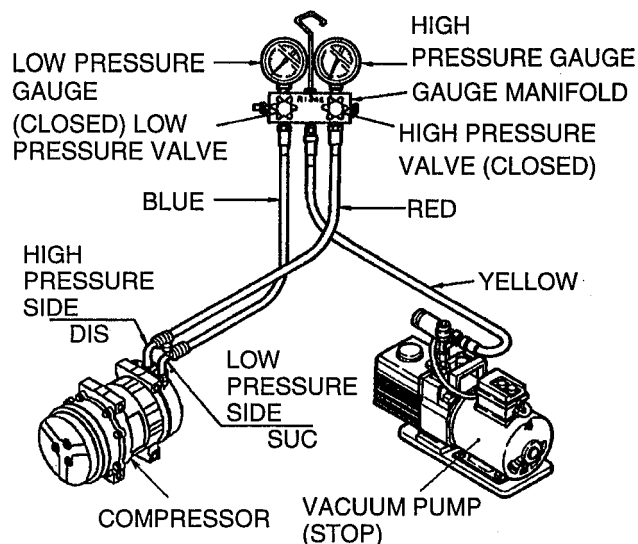

Fig. 25 Connecting gauge manifold
#### (1) Connecting Gauge Manifold (See Fig.25.)